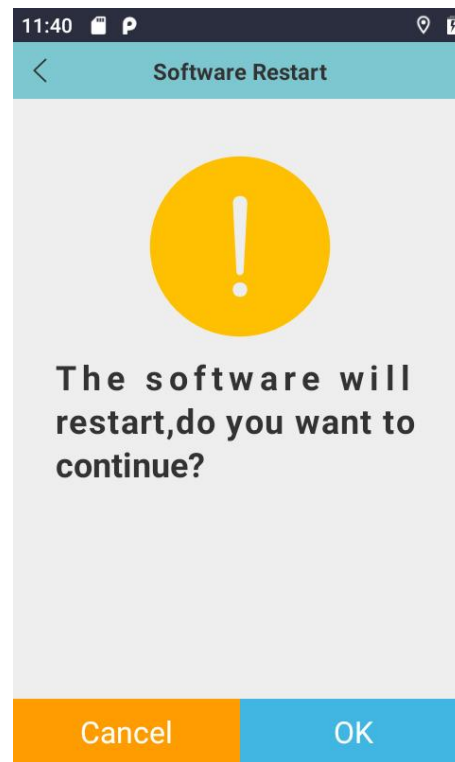

Figure 6.117
- 4) Software Restart: Tap "Software Restart" to reboot the instrument's software (see Figure 6.117). A confirmation dialog will appear: "The software will restart. Do you wish to continue?". Tap "Confirm" to proceed with the software reboot.